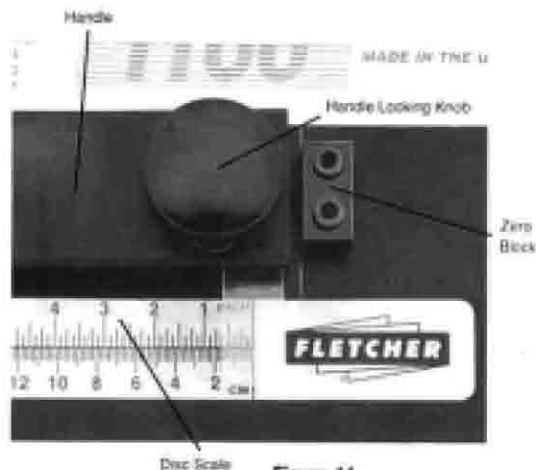

Figure 11
1. Set the **Cutter Bar** to the desired diameter of the circle. Set the **Disc Scale** to zero (since your off-set is zero). (The **Handle** will be touching the **Zero Block**. See Figure 11.)